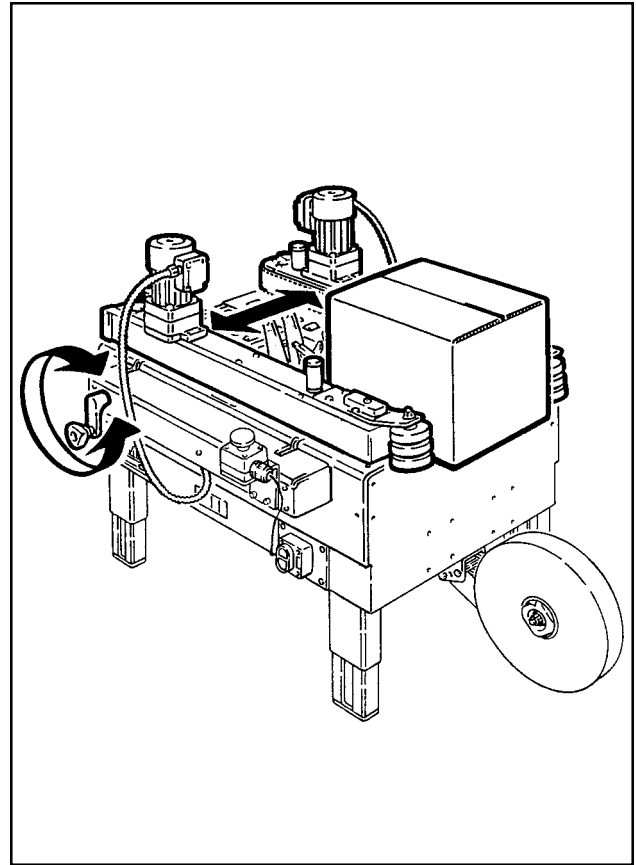

Figure 3-2 – Side Drive Belts
7. Taping head utilizes an extremely sharp tape cut-off knife. The knife is located under the orange knife guard that has the "WARNING – SHARP KNIFE" label. Before loading tape, refer to Section II, page 6, Figure 3-2 to identify the knife location. Keep hands out of this area except as necessary to service the taping head.
1. ADJUST DRIVE BELTS (Figure 3-2)